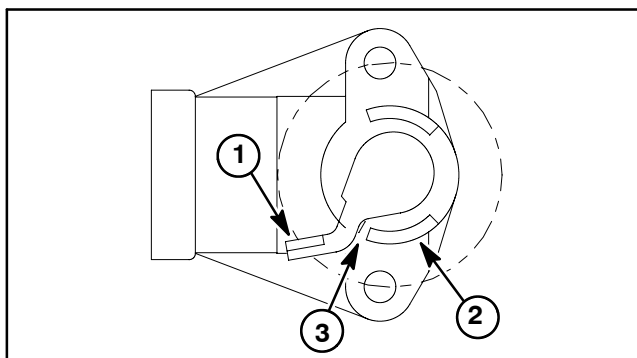

Figure 14
NOTE: The following adjustment procedure should be used on vehicles that have a potentiometer that includes a short lever (Figure 14). If potentiometer has a long lever, use the procedure on the following page.
A. With the accelerator pedal released, the roll pin on the throttle position collar should keep the potentiometer lever from 0.050" to 0.100" (1.3 to 2.5 mm) from the lower stop on the potentiometer body (Figure 14).